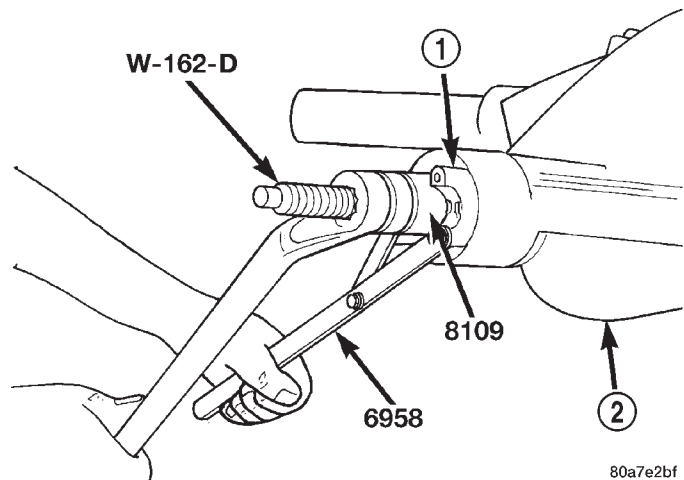

Fig. 12 Pinion Yoke Installation
- (2) Install yoke on the pinion gear with Installer W-162-D, Cup 8109, and Holder 6958 (Fig. 12).